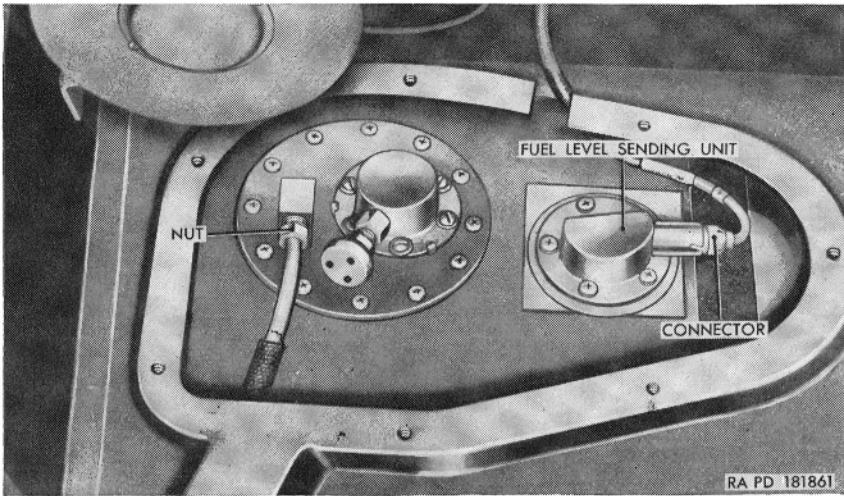

Figure 163.1. Fuel tank, fuel filter, and fuel level sending unit M170—installed—driver's seat and fuel tank units access plate—removed.
(fig. 163.1)
f. Connect the bayonet connector of the fuel level sending unit cable to the sending unit (fig. 163.1).
- g. Install the fuel line nut to the fuel filter assembly (fig. 163.1).